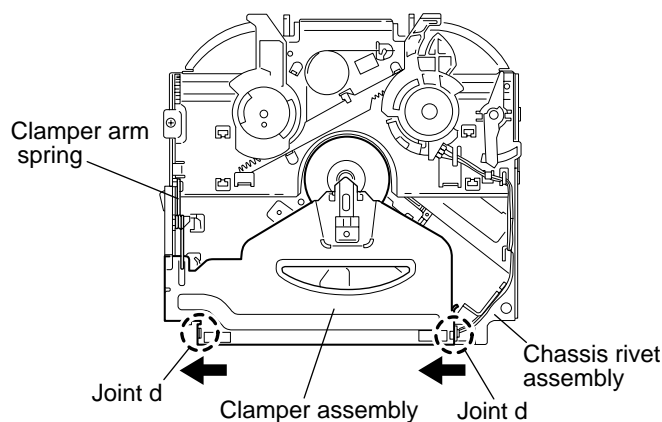

Fig.9
■ Removing the clamber assembly (See Fig.9 and 10)